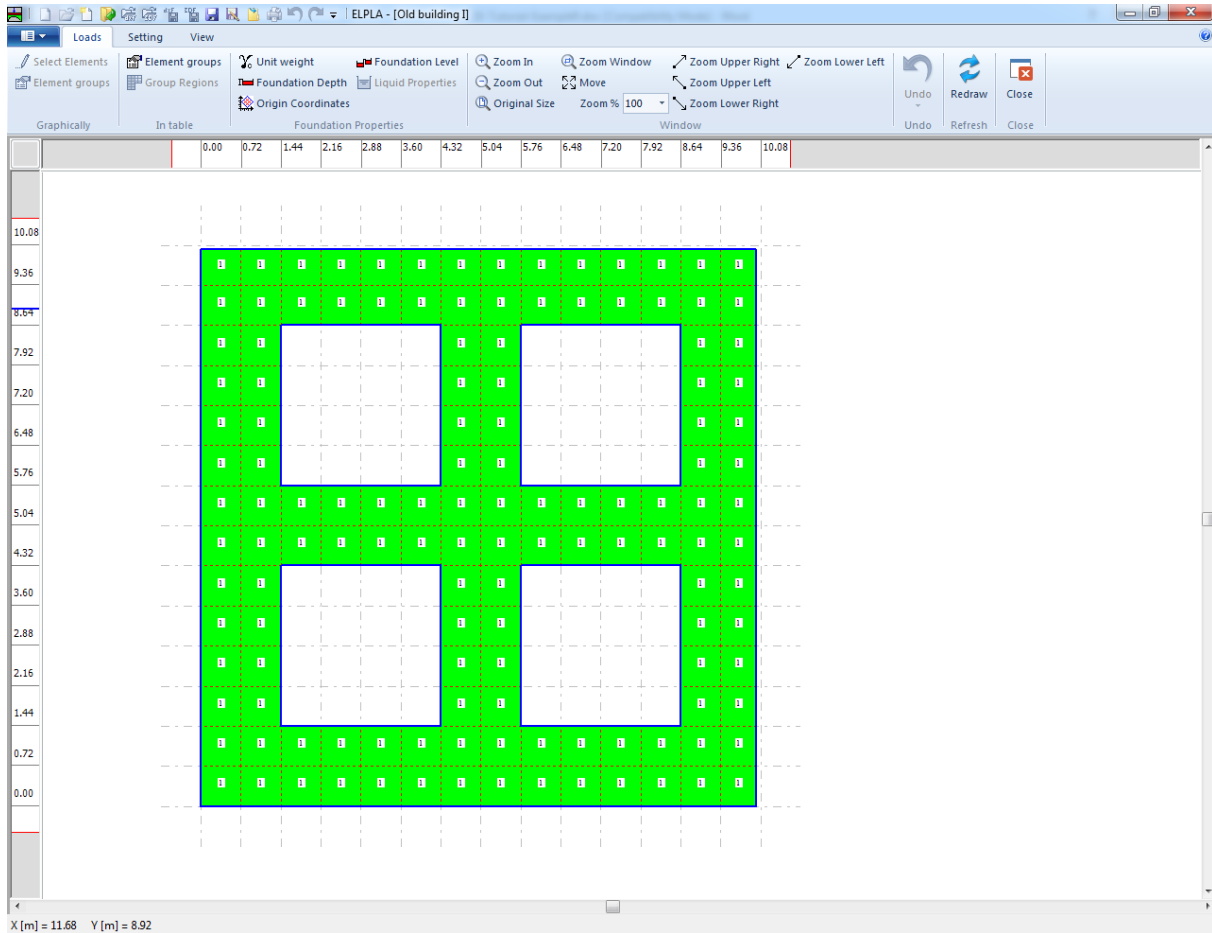
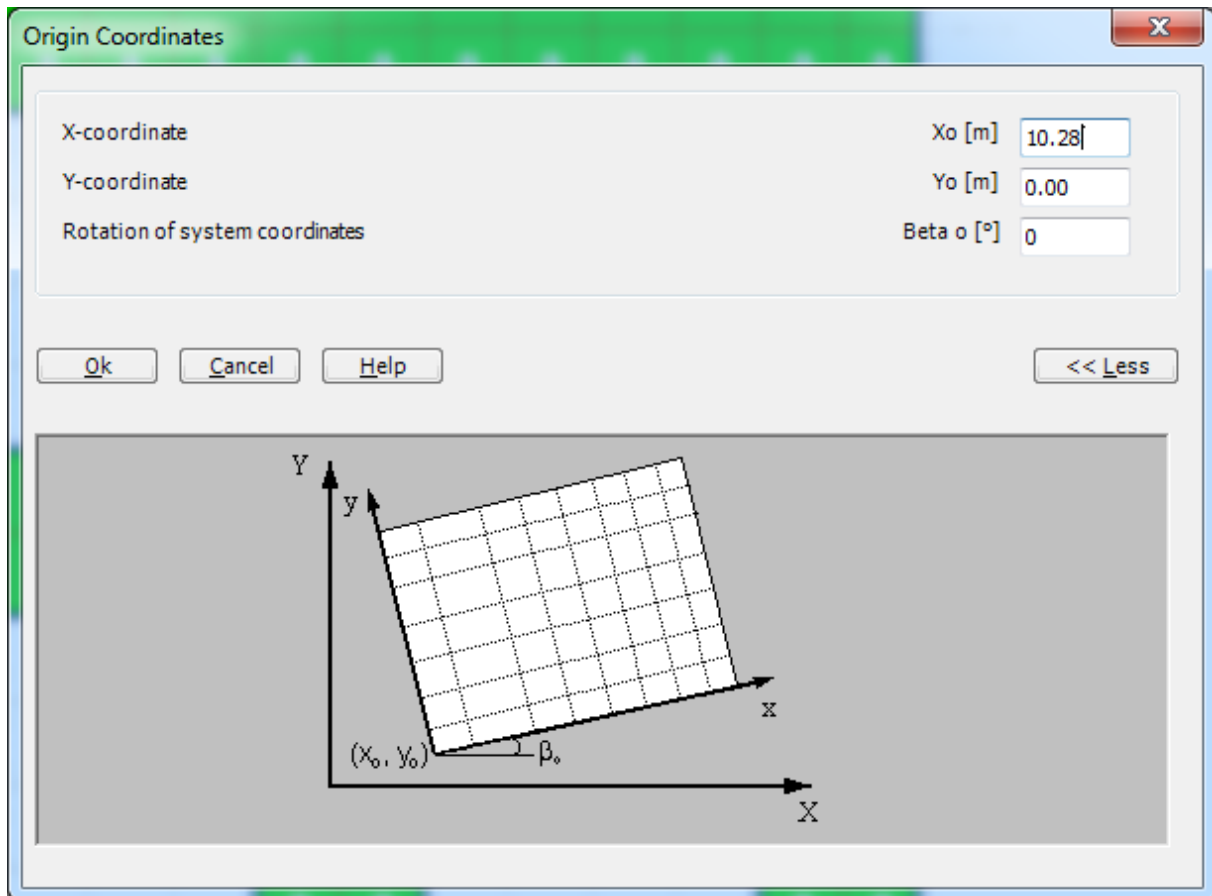

Figure 9.32 "Foundation Properties" Window
Figure 9.33 "Origin Coordinate" dialog box
To modify the origin coordinate of building II, choose "Foundation Properties" command from "Data" Tab of *ELPLA*. The following Window in Figure 9.32 appears.
- Choose "Origin Coordinates" command from "Foundation Properties" menu in the window of Figure 9.32. The following dialog box in Figure 9.33 appears
- Choose "Save" command from "File" menu Figure 9.32 to save the foundation properties
- Choose "Close" command from "File" menu Figure 9.32 to close the "Foundation properties" Window and return to *ELPLA*